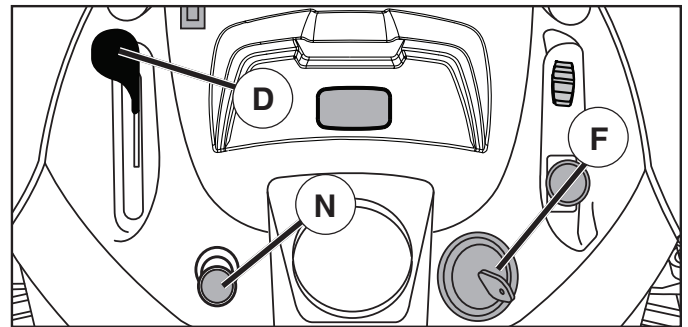

Fig. 7
- Move throttle control (D) between half and full speed (fast) position.
- Turn ignition key (F) to "STOP" position and remove key. Always remove key when leaving tractor to prevent unauthorized use.
### TO USE THROTTLE CONTROL (D) (See Fig. 7)
### TO USE CHOKE CONTROL (N) (See Fig. 7)